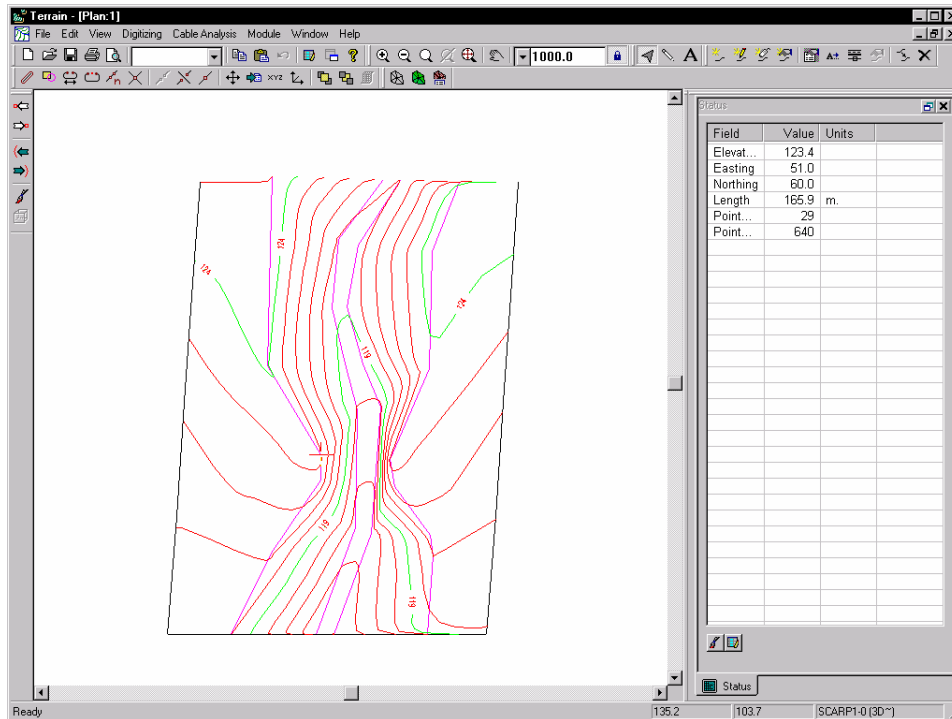

Figure 8.13: Contours after Breaklines have been Set
7. Press the *Generate TIN*  button. Press OK. After re-calculating, the contour lines now indicate a continuous gully as shown in Figure 8.13.